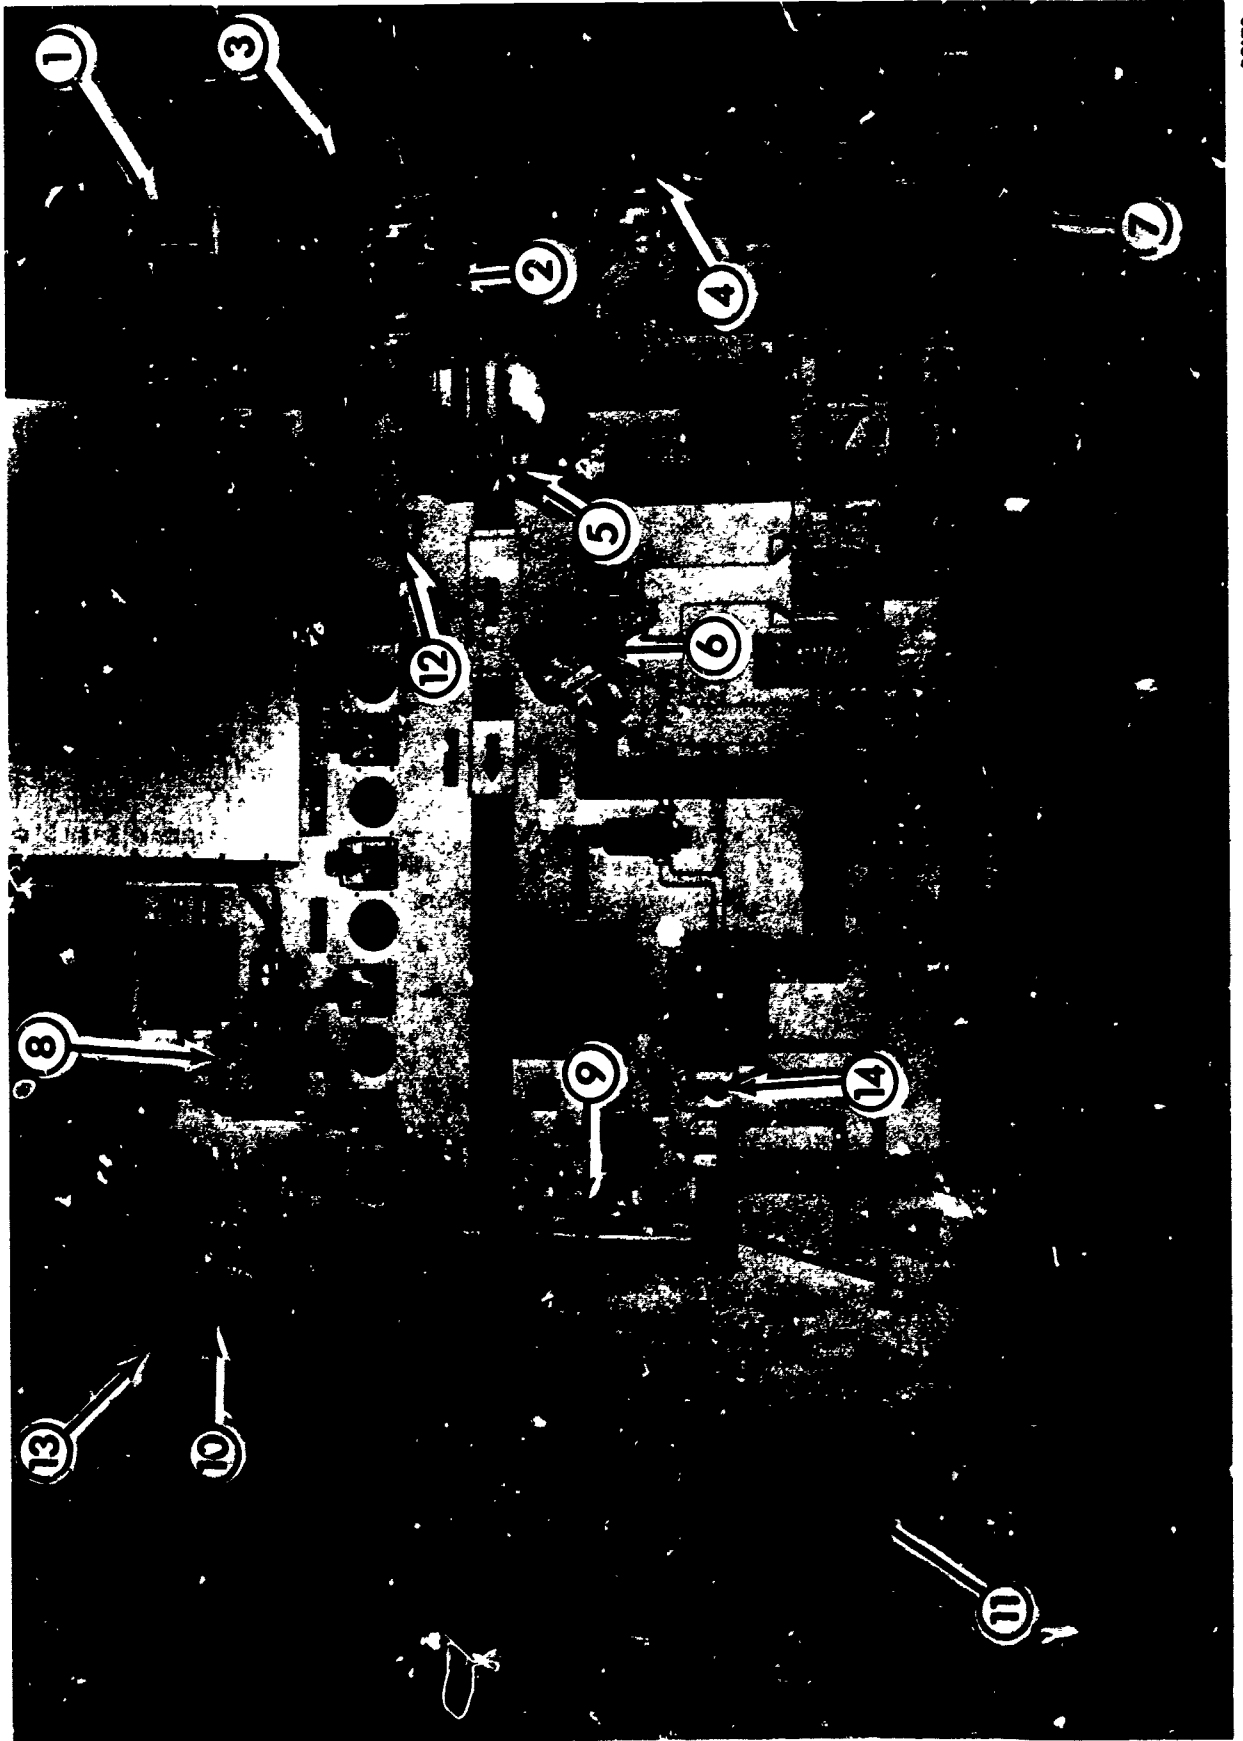

Figure 1. Bomber Air Conditioning.
a. Using the trainer and the illustration in figure 1, locate each of the numbered items. Write the name of each of these numbered items in the blank spaces below. As you locate each component, notice the check point near the component that is used for checking the electrical circuitry.
- (1) _____
- (2) _____
- (3) _____
- (4) _____
- (5) _____
- (6) _____
- (7) _____
- (8) _____
- (9) _____
- (10) _____